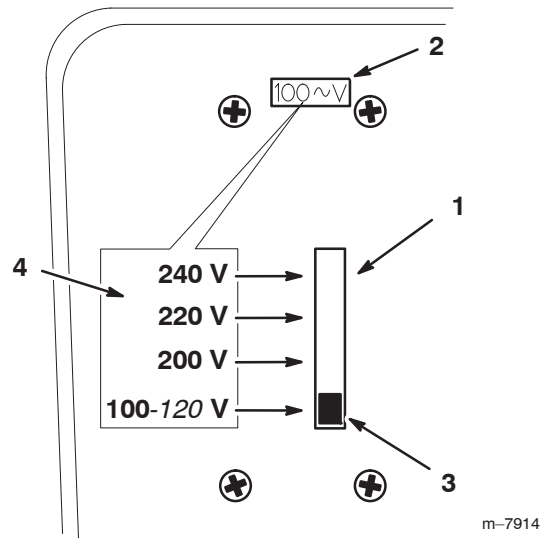

Figure 2
1. Locate the voltage selector on the rear of the charger (Fig. 2).
2. Adjust the voltage setting by moving the switch on the voltage selector upward or downward to change the voltage setting (Fig. 2).